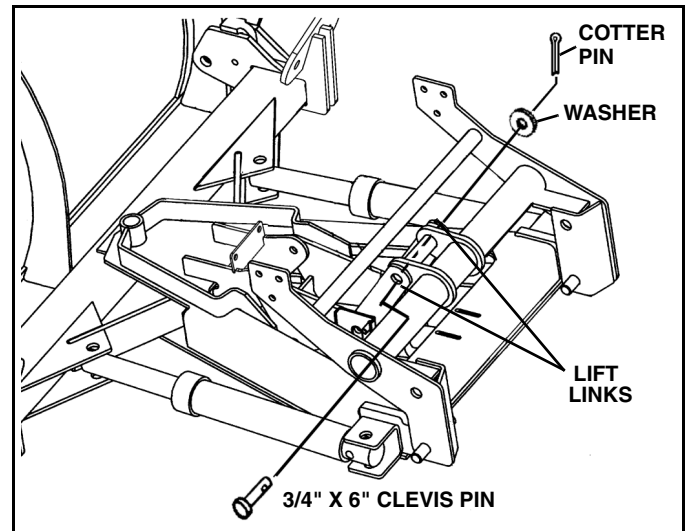

Figure 1-11
21. Pin the lift link to the light/lift bar using the 3/4" x 6" clevis pin from the mounting parts bag. (See Figure 1-11).